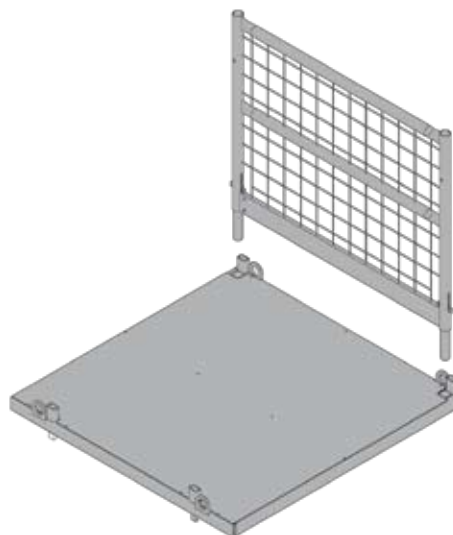

Fig. 28.2
2. Plug the guard-railing 140 LAB into the Uni-platform. The railing locks automatically (Fig. 28.2 and 28.3).